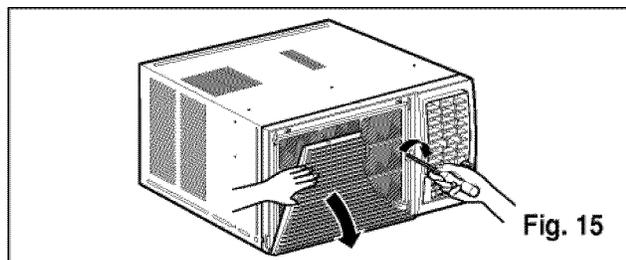

Fig. 15
3. Lift the inlet grille and secure it with a type A screw through the front grille. (See Fig. 15)